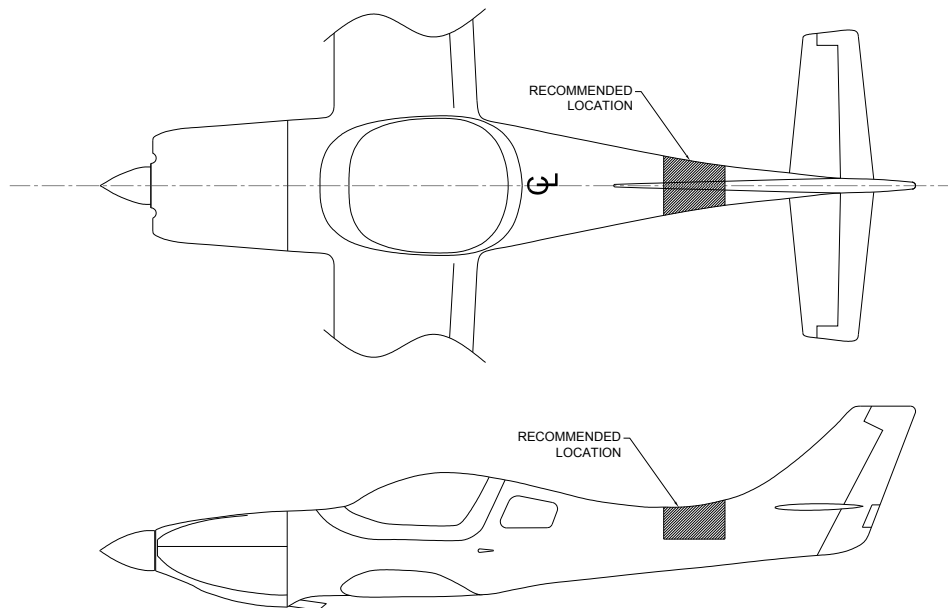

Figure C-19 Lancair Legacy Magnetometer Location
1. A possible mounting location is in the upper section of the fuselage cavity, just forward of the vertical tail section. The recommended location is shown in Figure C-19.